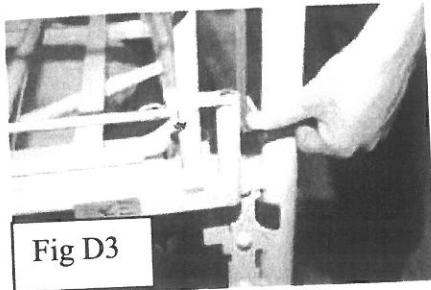

Fig D3
- Test the side rail to make sure in working order by pressing down on the silver release button, this will allow the side to fold down on to the frame of the bed. To relocate in up position simply pull the side up by its top rail until the release mechanism locks back into place. (Fig D3)